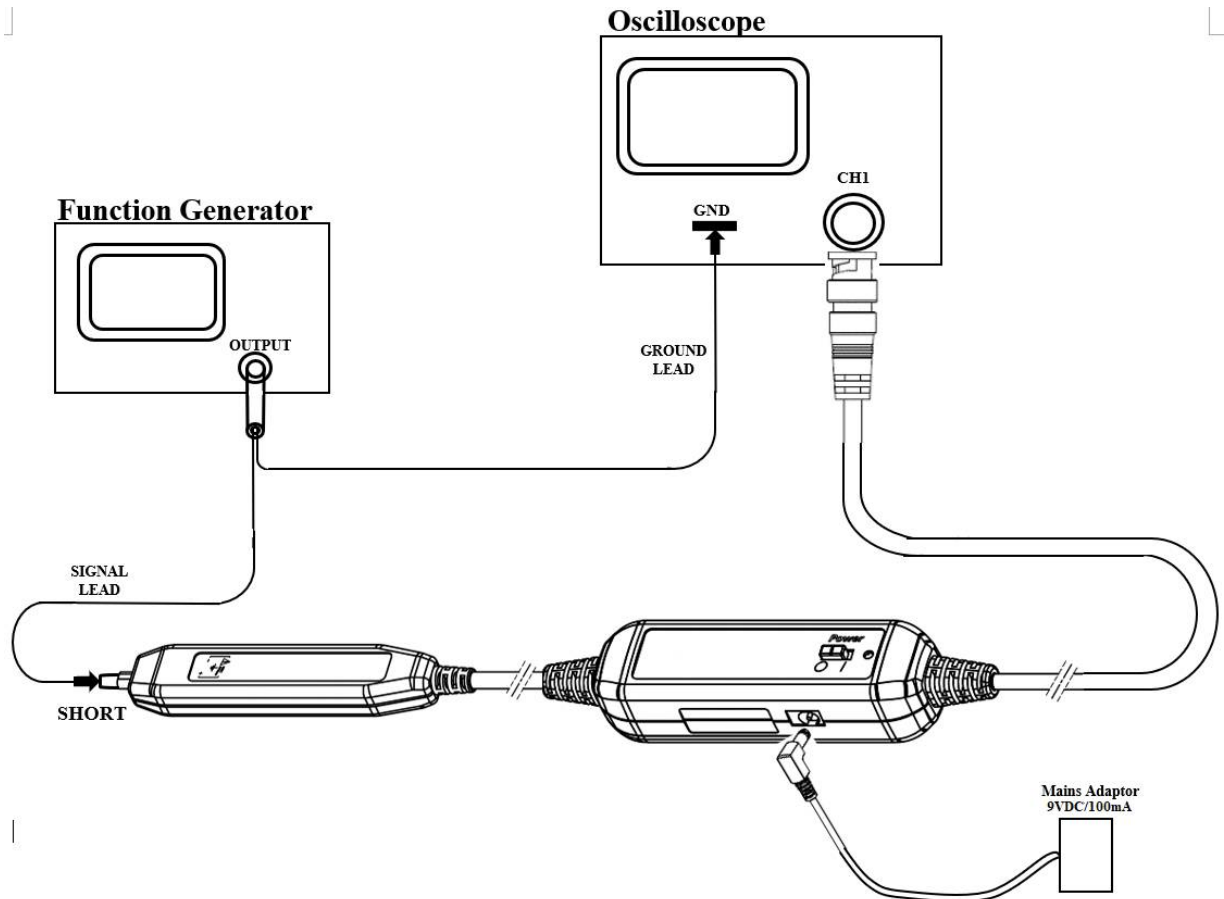

Fig. 9
- G-1. Connect the probe as shown in Fig. 9.